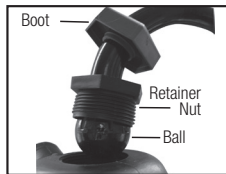

Figure 2
3) Disconnect linkage arm from the top of the pump assembly (see section covering Installing The Pump Handle). (Figure2).